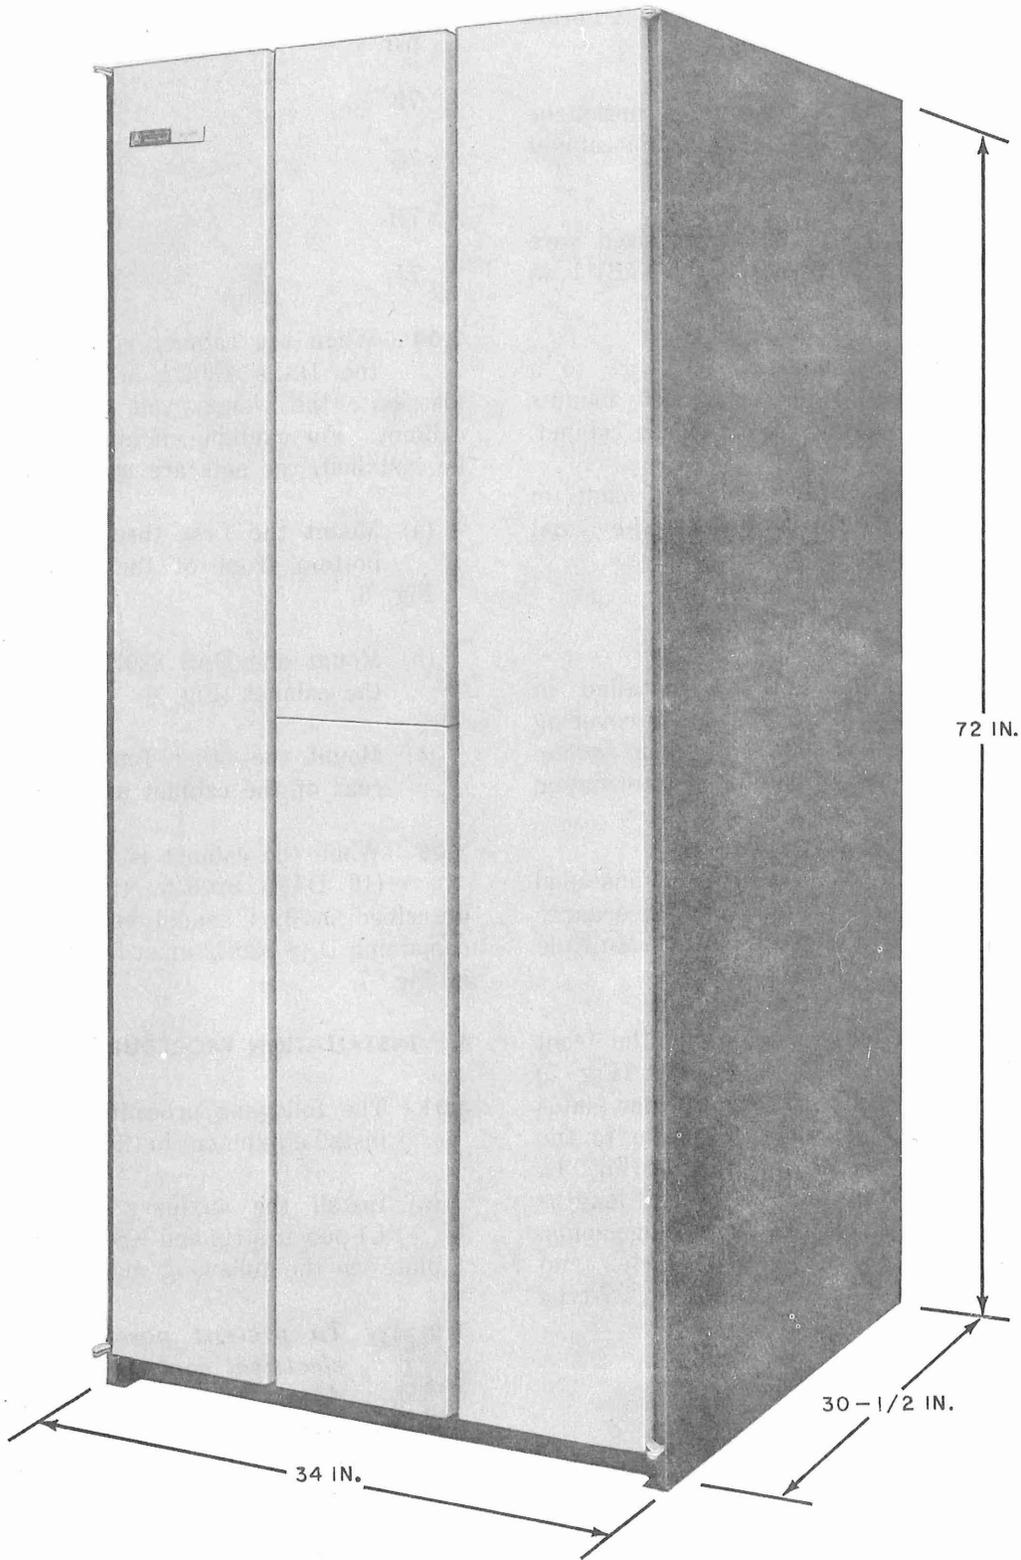

Fig. 4—KS-20093 Cabinet , Front View
3.02 The KS-20093 L1 Cabinet (Fig. 4) is installed on the customer's premises in accordance with the section entitled Data Sets, Multiple Installation Information (590-010-201).